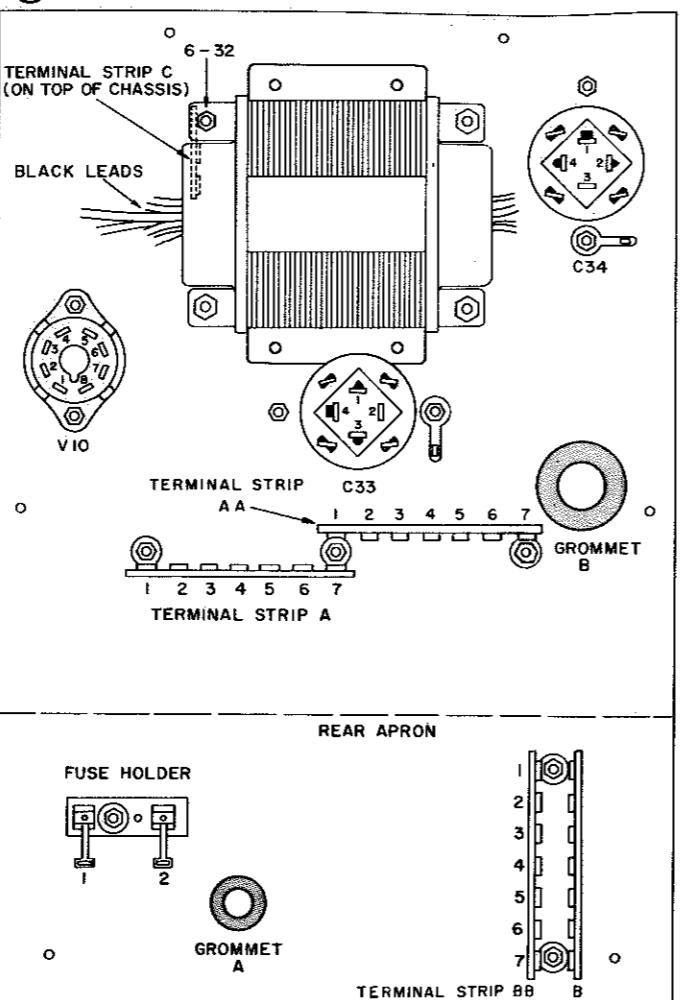
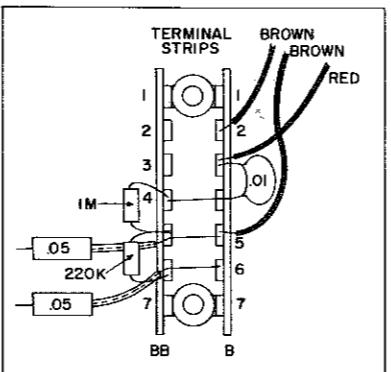

Fig. 2. Parts mounted on the under side of the rear chassis.
FIG. 3. (Left) The under side of the rear chassis.
The underneath side of the rear chassis with the parts mounted in place is shown in Fig. 2. Refer to this figure as you mount the parts. Be sure to mount the parts in the correct holes. You will find it helpful if you will place the chassis in front of you with the rear lip towards you and pointing up as shown in Fig. 2. Run all the screws in from the outside of the chassis so the heads will be on the outside and the nuts will be underneath, unless we specifically tell you otherwise.
- Mount the two 7 lug terminal strips shown as Strip A and Strip AA in Fig. 2. The mounting feet of Strip A point away from the bend in the chassis and the mounting feet of Strip AA point toward the bend in the chassis. Use three  $\frac{3}{8}$ " 6-32 screws and nuts. The middle screw passes through the chassis and one mounting foot of each terminal strip.
- Mount one of the capacitor mounting wafers on top of the chassis over the hole for capacitor C33. Use  $\frac{1}{4}$ ", 6-32 screws and nuts. Before you put on the right-hand screw (looking from the bottom of the chassis), put a solder lug on the screw. Position the lug as shown in Fig. 2. Bend the lug slightly before you mount it so you will be able to put a lead through the hole in the lug and solder it, later.
- Mount the other capacitor mounting wafer on top of the chassis over the large hole for capacitor C34. Use  $\frac{1}{4}$ ", 6-32 screws and nuts. Mount a solder lug on the screw nearer the back apron. Position it as shown in Fig. 2. Again bend up the solder lug before you put on the nut.
You now have all the parts shown in Fig. 2 mounted, and are ready to go ahead with the wiring.
The chassis wiring, which you are to install now, is shown in Fig. 3. Refer to this figure as you go along, to be sure you get the wires in the right places. The terminals on the terminal strips, fuse holder, electrolytic capacitors, and tube sockets are numbered in Fig. 2 and Fig. 3.
Several of these wires are to be connected at only one end at this time. Be sure to use the lengths specified, and lay them out on the chassis as shown in Fig. 3. Several of them will be much longer than the chassis.